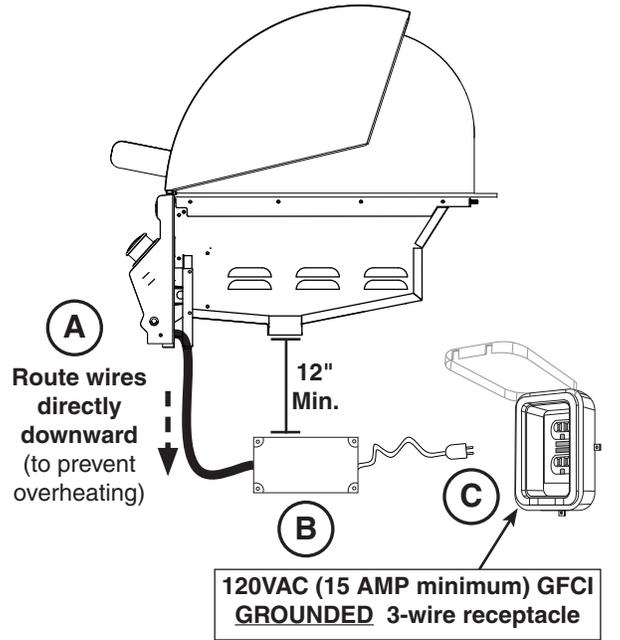

Fig. 23-1 Electrical installation
1. Route the wire harness extension below the control panel and directly downward. This will prevent overheating. **DO NOT** route the wire extension below the grill. See Fig. 23-1, A.
2. Mount the power supply box to the inside of the enclosure using appropriate hardware for your enclosure. It **MUST** be located at least 12 inches below the bottom of the unit. See Fig. 23-1, B.
3. Connect the cord coming from the power supply to a **120VAC (15 AMP minimum) GFCI GROUNDED 3-wire receptacle** (see Fig. 23-1, C). The GFCI receptacle must be a WEATHER-PROOF IN-USE COVERED RECEPTACLE.